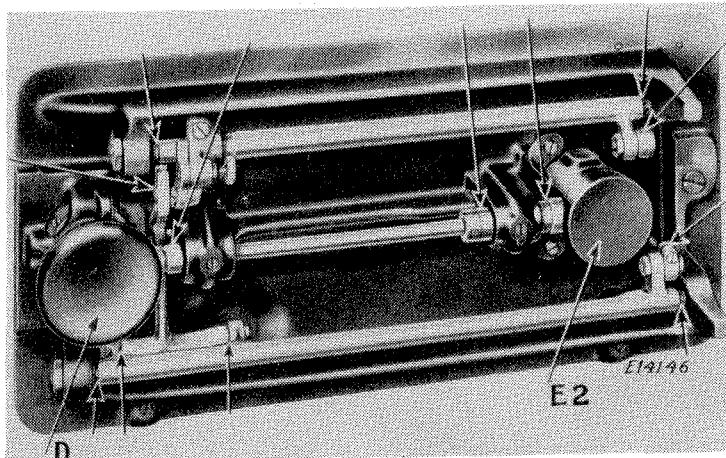
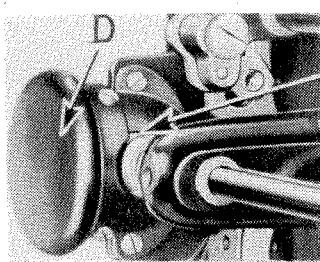

Fig. 16.
Fig. 16a.
**D2** The gears concealed by the gear cover (E2, Fig. 16) are oiled through the oil hole (E, Fig. 13). The gears concealed by gear cover (D, Fig. 16) are oiled through the space just above this cover, as indicated by arrow (D2, Fig. 16a). After oiling at D2, rotate the balance wheel towards you to distribute the oil on these gears.